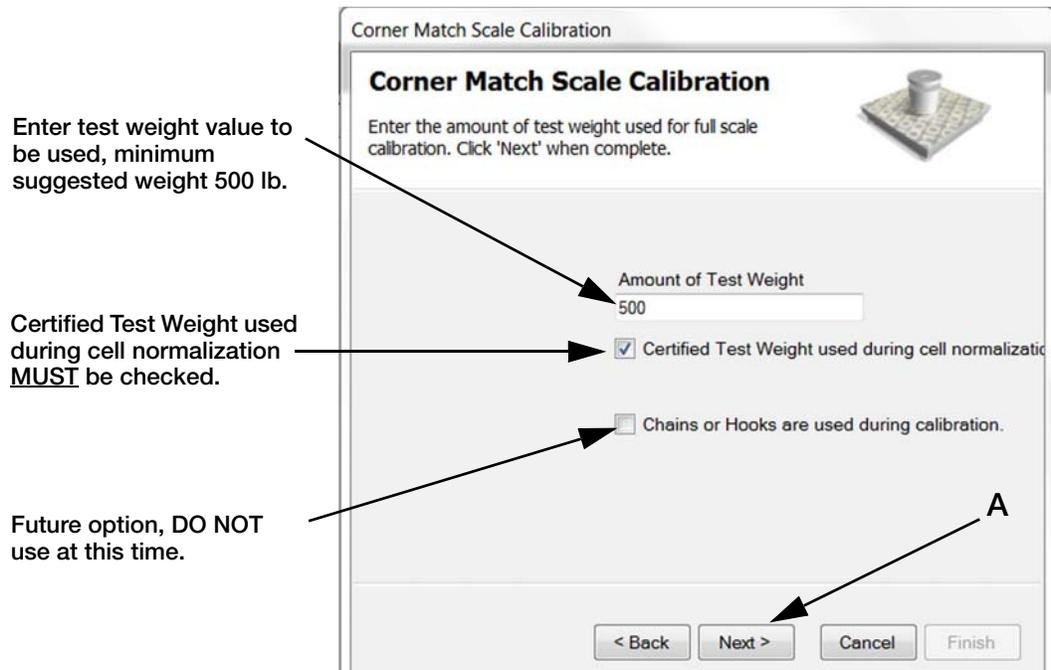

Figure 5-5. Enter Test Weight Value
-  **Note** When hanging weights from the forks, make sure to note the weight of the hanging device and add to test weight value (Figure 5-5).
5. Enter the test weight value to be used and press **Next** (Figure 5-5 A). *Certified Test Weight used during cell normalization must be checked.*